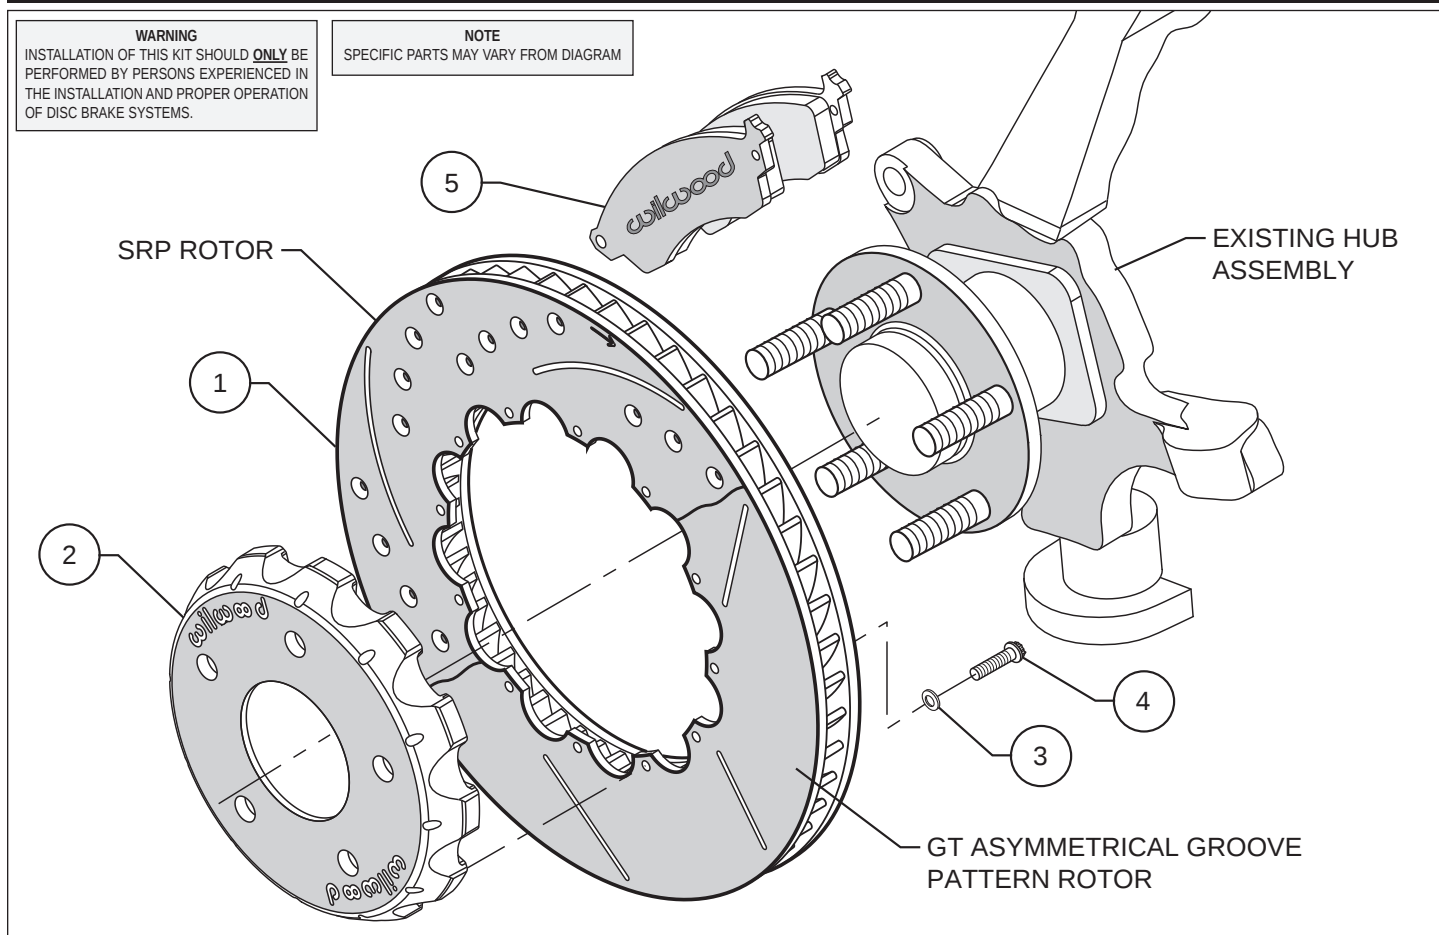
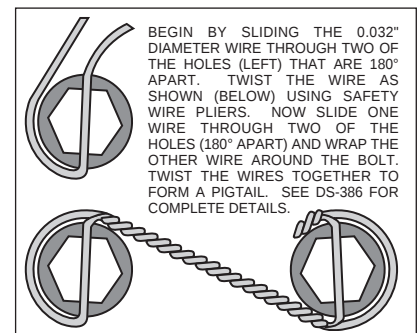
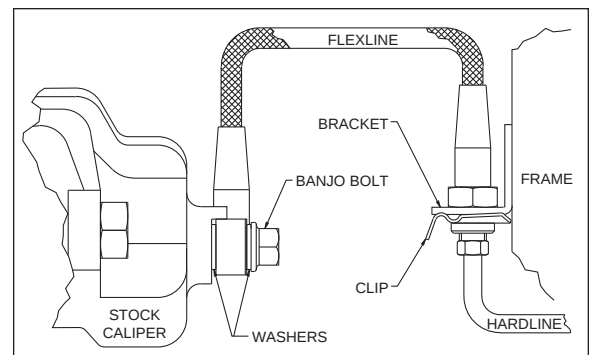

Figure 1. Typical Installation Configuration
Figure 2. Safety Wire Diagram
Figure 3. Brake Line Diagram
- Assemble the rotor (1) to the hat (2) with the bolts (4) and washers (3) provided in the configuration shown in Figure 1. Be sure all bolts thread in smoothly and are snug. Using an alternating sequence, apply red *Loctite*® 271 to the threads and torque bolts to 155 in-lb. For an added measure of security, the bolts may be safety wired using standard 0.032 inch diameter stainless steel safety wire as shown in Figure 2. Please refer to Wilwood's data sheet DS-386 (available at www.wilwood.com/Pdf/DataSheets/ds386.pdf) for complete safety wire installation instructions.
- Align the hole pattern on the hat (2) with the stud pattern on the hub. Slide the hat and rotor assembly (1 and 2) onto the hub. Check to be sure the hat seats squarely against the hub face. The hub must be free from any rust, debris, casting burrs, machining irregularities, etc. Use several lug nuts to hold the rotor and hat firmly against the hub face.
- Install new Wilwood brake pads (5) into stock caliper.
- Install Wilwood's stainless steel braided flexline hose kit (6), see figure 3, P/N 220-8516.
- Using new mounting hardware supplied in the kit (6), bolt flexline to back of stock caliper, see Figure 3. Torque banjo bolt to specifications included with the flexline kit (DS-573).